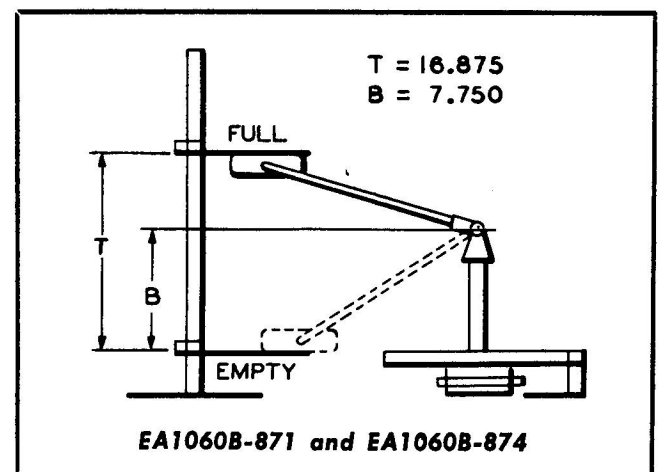

Figure 4-268. Set-Up Stand Diagram
ADJUSTING FLOAT ARM STOPS. See paragraphs 3-5, 3-6, 3-8 and 3-9, using dimensions given in figure 4-268. Also check length of float arm against dimension given in figure 4-263.
a. With tank unit in a set-up stand adjusted to dimensions given in figure 4-268, connect a Kelvin Wheatstone Resistance Bridge (No. 638R, Shallcross Manufacturing Co., Collingdale, Pa., or equivalent) across pins A and B of tank unit electrical receptacle.